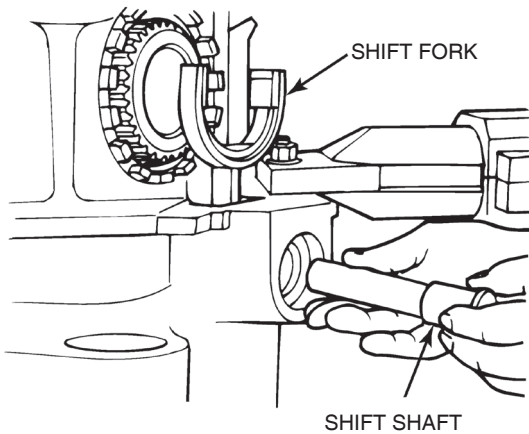

Figure 6.18
4. Install the shift shaft through the bore in the differential, fork and spring until it is against the shift fork. Figure 6.18.